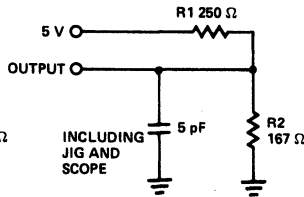

Figure 1b
8. tHZCS is tested with load shown in Figure 1b. Transition is measured at steady state High level + 500 mV or steady state Low level + 500 mV on the output from the 1.5V level on the input.